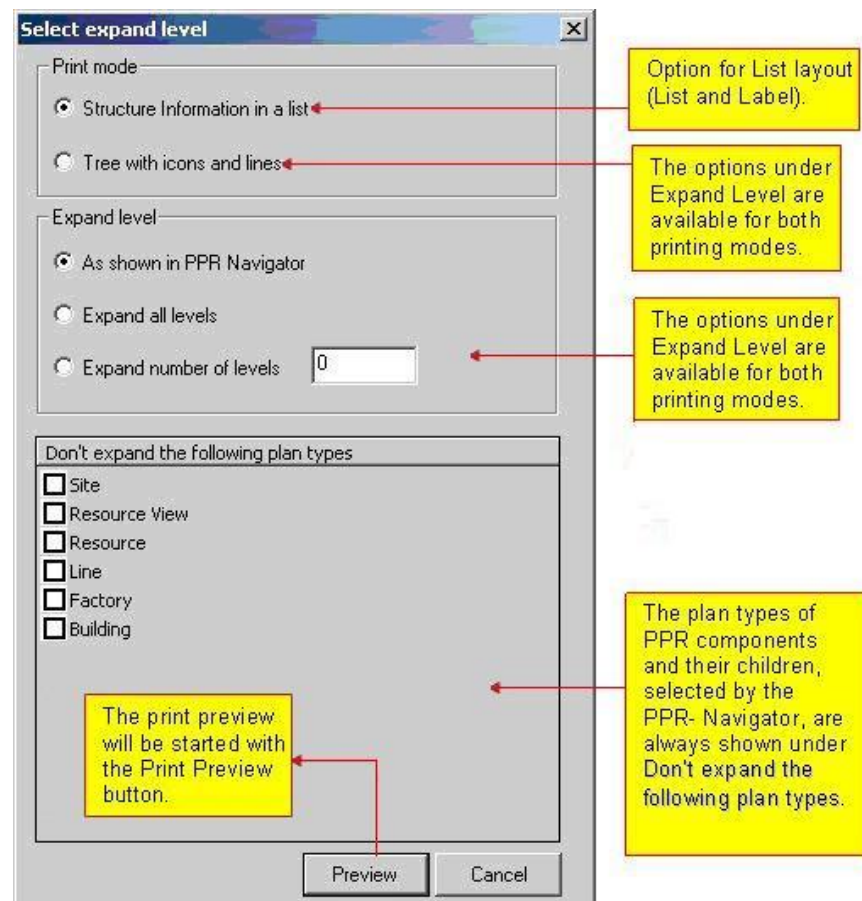

Figure 34: Dialog – Print Option Tree
The mode for the print out is selected under the **Print mode** option.. Please refer to the Figure 34.
- 3) Select the option for the printout in the **Select expand level** dialog. Please refer to the Using File Menu Options and Figure 34.